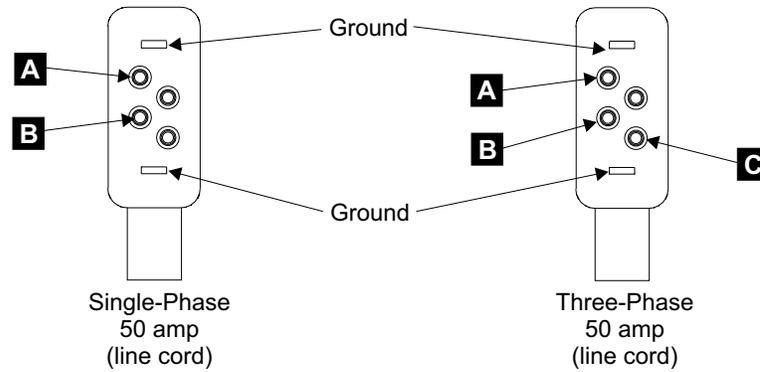

Figure 227. Female Connector on the Mainline Power Cable (S008049I)
- For single-phase AC see Table 7 and Figure 227 on page 221 .
- For three-phase AC see Table 8 and Figure 227 on page 221.